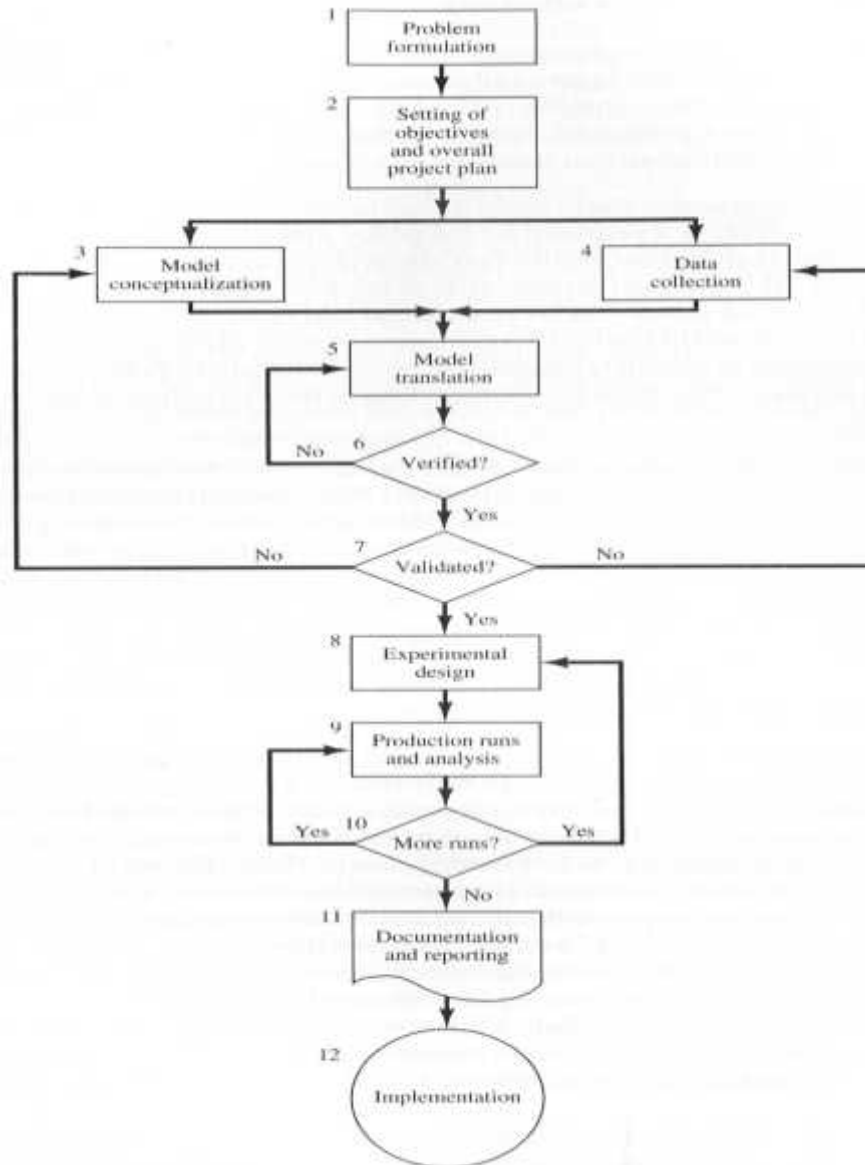

Figure 1.3. Steps in a simulation study.
- ◆ Four phases according to Figure 1.3